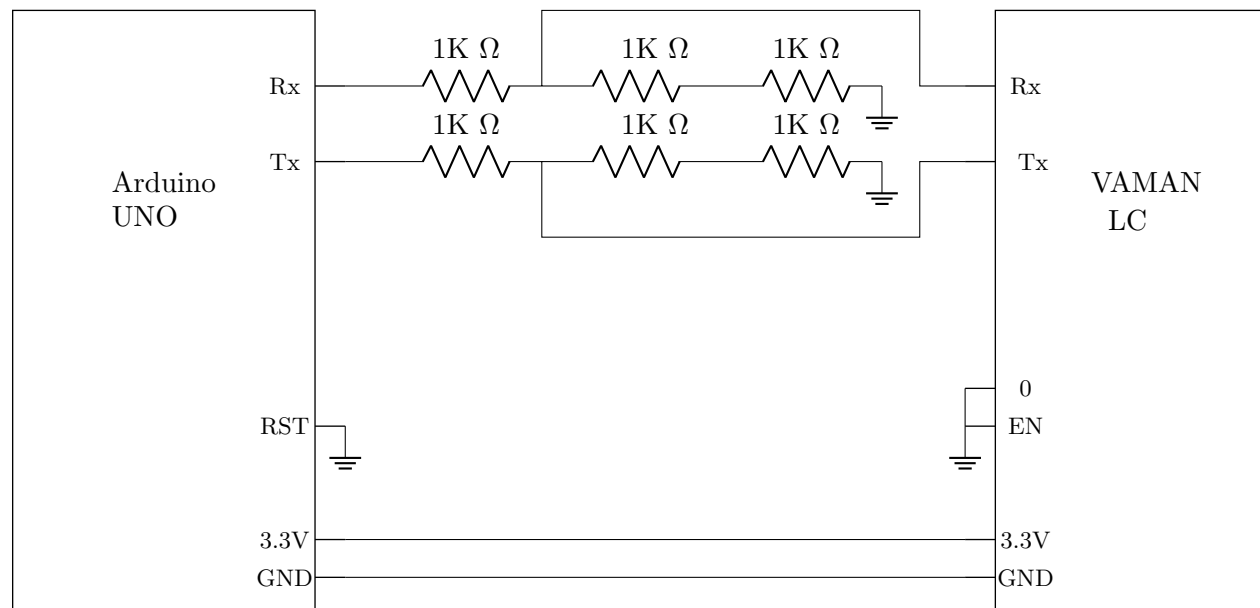

Figure 1.1.3.1: Circuit Connections
1.1.3. The Vaman pin diagram is available in Fig. 1.1.3.2